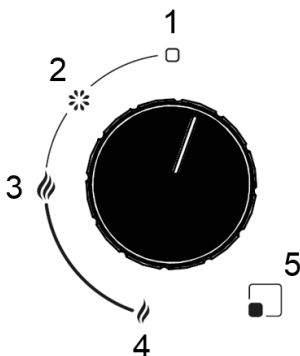

Fig. 10
1. Hold down the button of the burner. (see fig. 10)